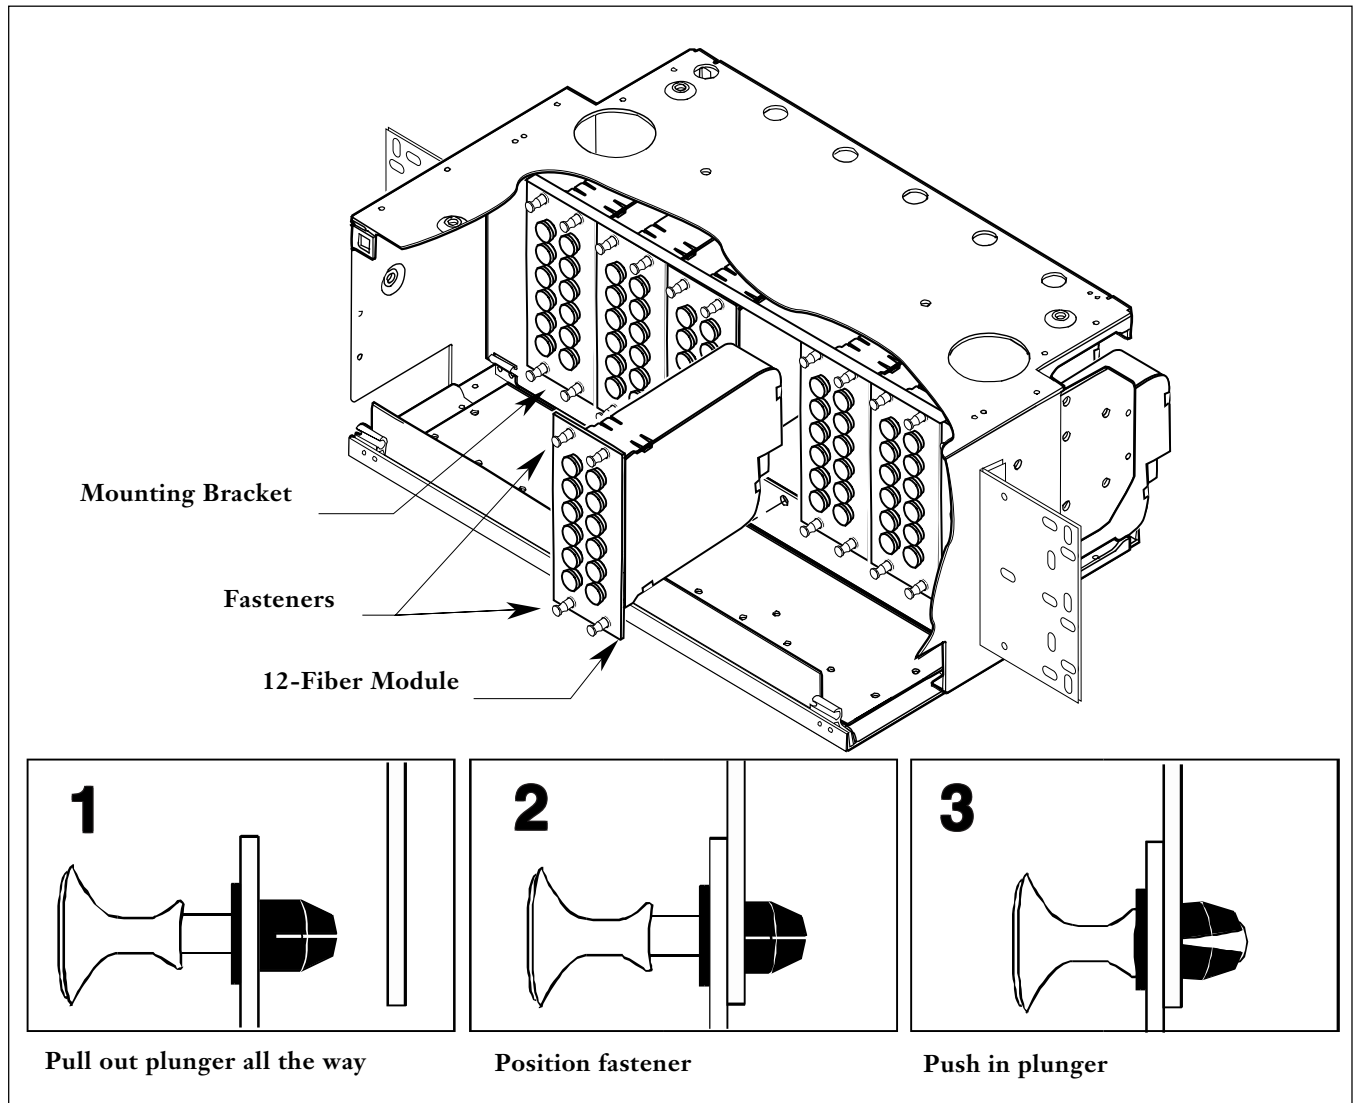

Figure 8
9.1 Installation of a 12-fiber module includes snapping the module onto the cabinet's connector module bracket (each module requires two positions), strain-relieving the pigtail cable to the side of the cabinet, and routing the pigtail to the splice point (Figure 8).